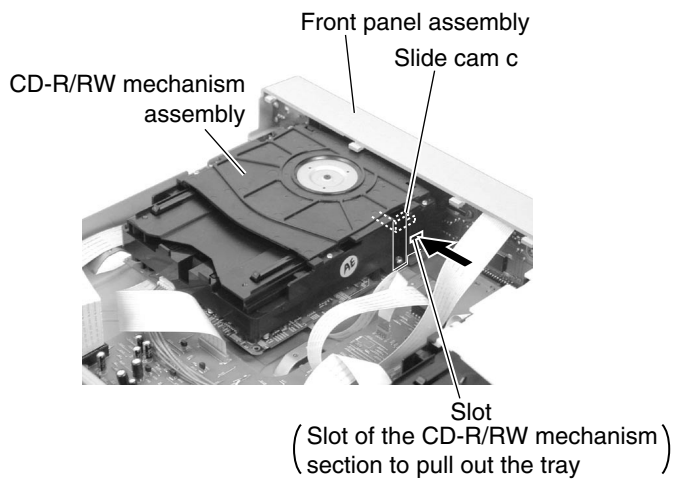

Fig.6
**■ Removing the fitting of the CD-R/RW mechanism section (See Fig.6 to 9)**